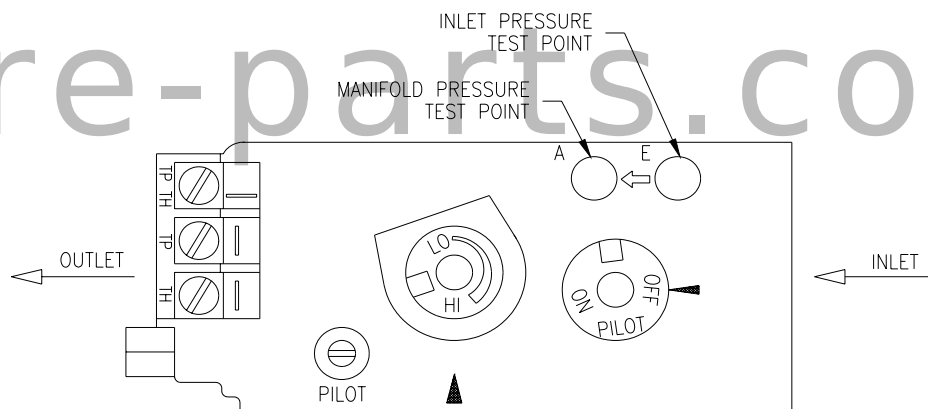

Figure 3
5. Push in the gas control knob slightly and turn clockwise to the “OFF” position as shown in Figure 3.